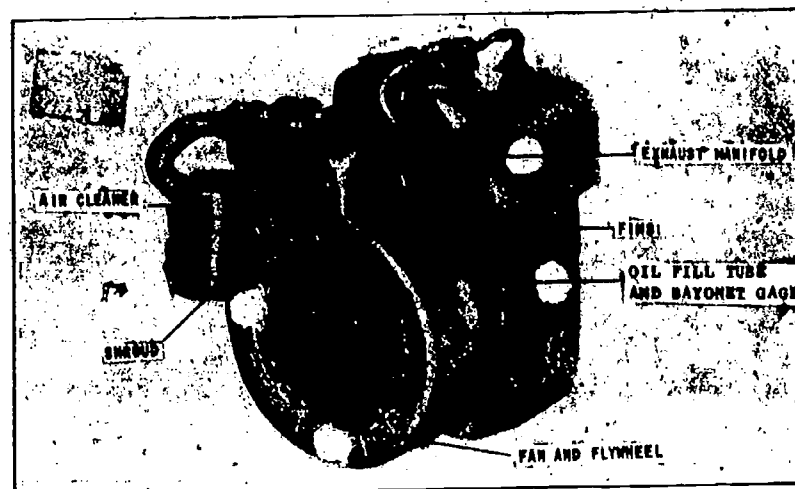

Fig 2-18. Air-cooled engine.
- (2) **Air-cooled (fig 2-18).** In this system the air is directed across the engine parts that require cooling. Some engine cylinder blocks are constructed with fins which provide more area for the air to contact to remove the excess heat. A lightweight metal shield (shroud) usually surrounds these areas and directs the air across the engine. A fan is mounted in an opening of the shield and forces or draws air through the system. A good example of an air-cooled engine is the engine of a small lawnmower.